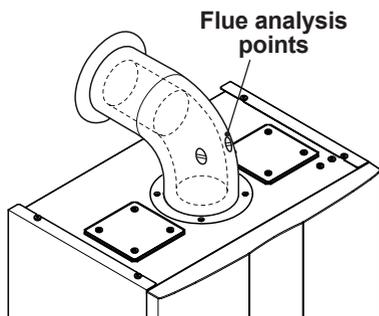

Fig. 9.16
- Connect a flue analyser to the flue analysis outlets on the flue exhaust of the boiler Fig. 9.16.
- Check the combustion of the boiler using the outlets located on the flue tubes (Fig. 9.16) and compare the data measured with that following.